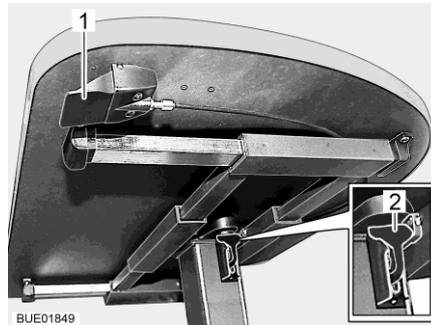

Fig. 63 Lift-off table with release button
- Pull or press down the catch lever (Fig. 63,2).
- Press the catch lever (Fig. 63,2) upwards.
- Press the release button (Fig. 63,1) and hold it down. The table top moves automatically upwards to the limit stop.
- Release the release button (Fig. 63,1). The table top remains in the desired position.
- Press the release button (Fig. 63,1) and hold it down.
- Release the release button (Fig. 63,1). The table top remains in the lowest position.